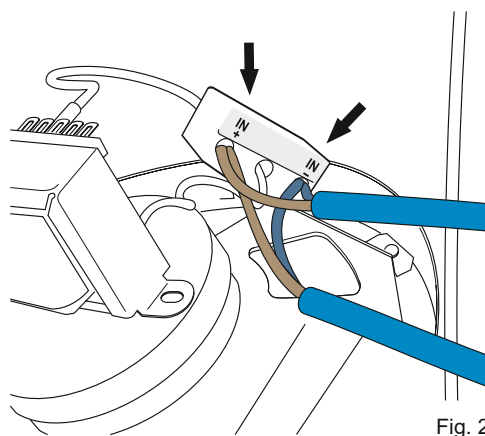

Fig. 2
- Remove the screw (A);
- Connect the cable ends of the line to the terminal strip, based on the indications in Figures 2 and 3.
- Tighten the screw (A);